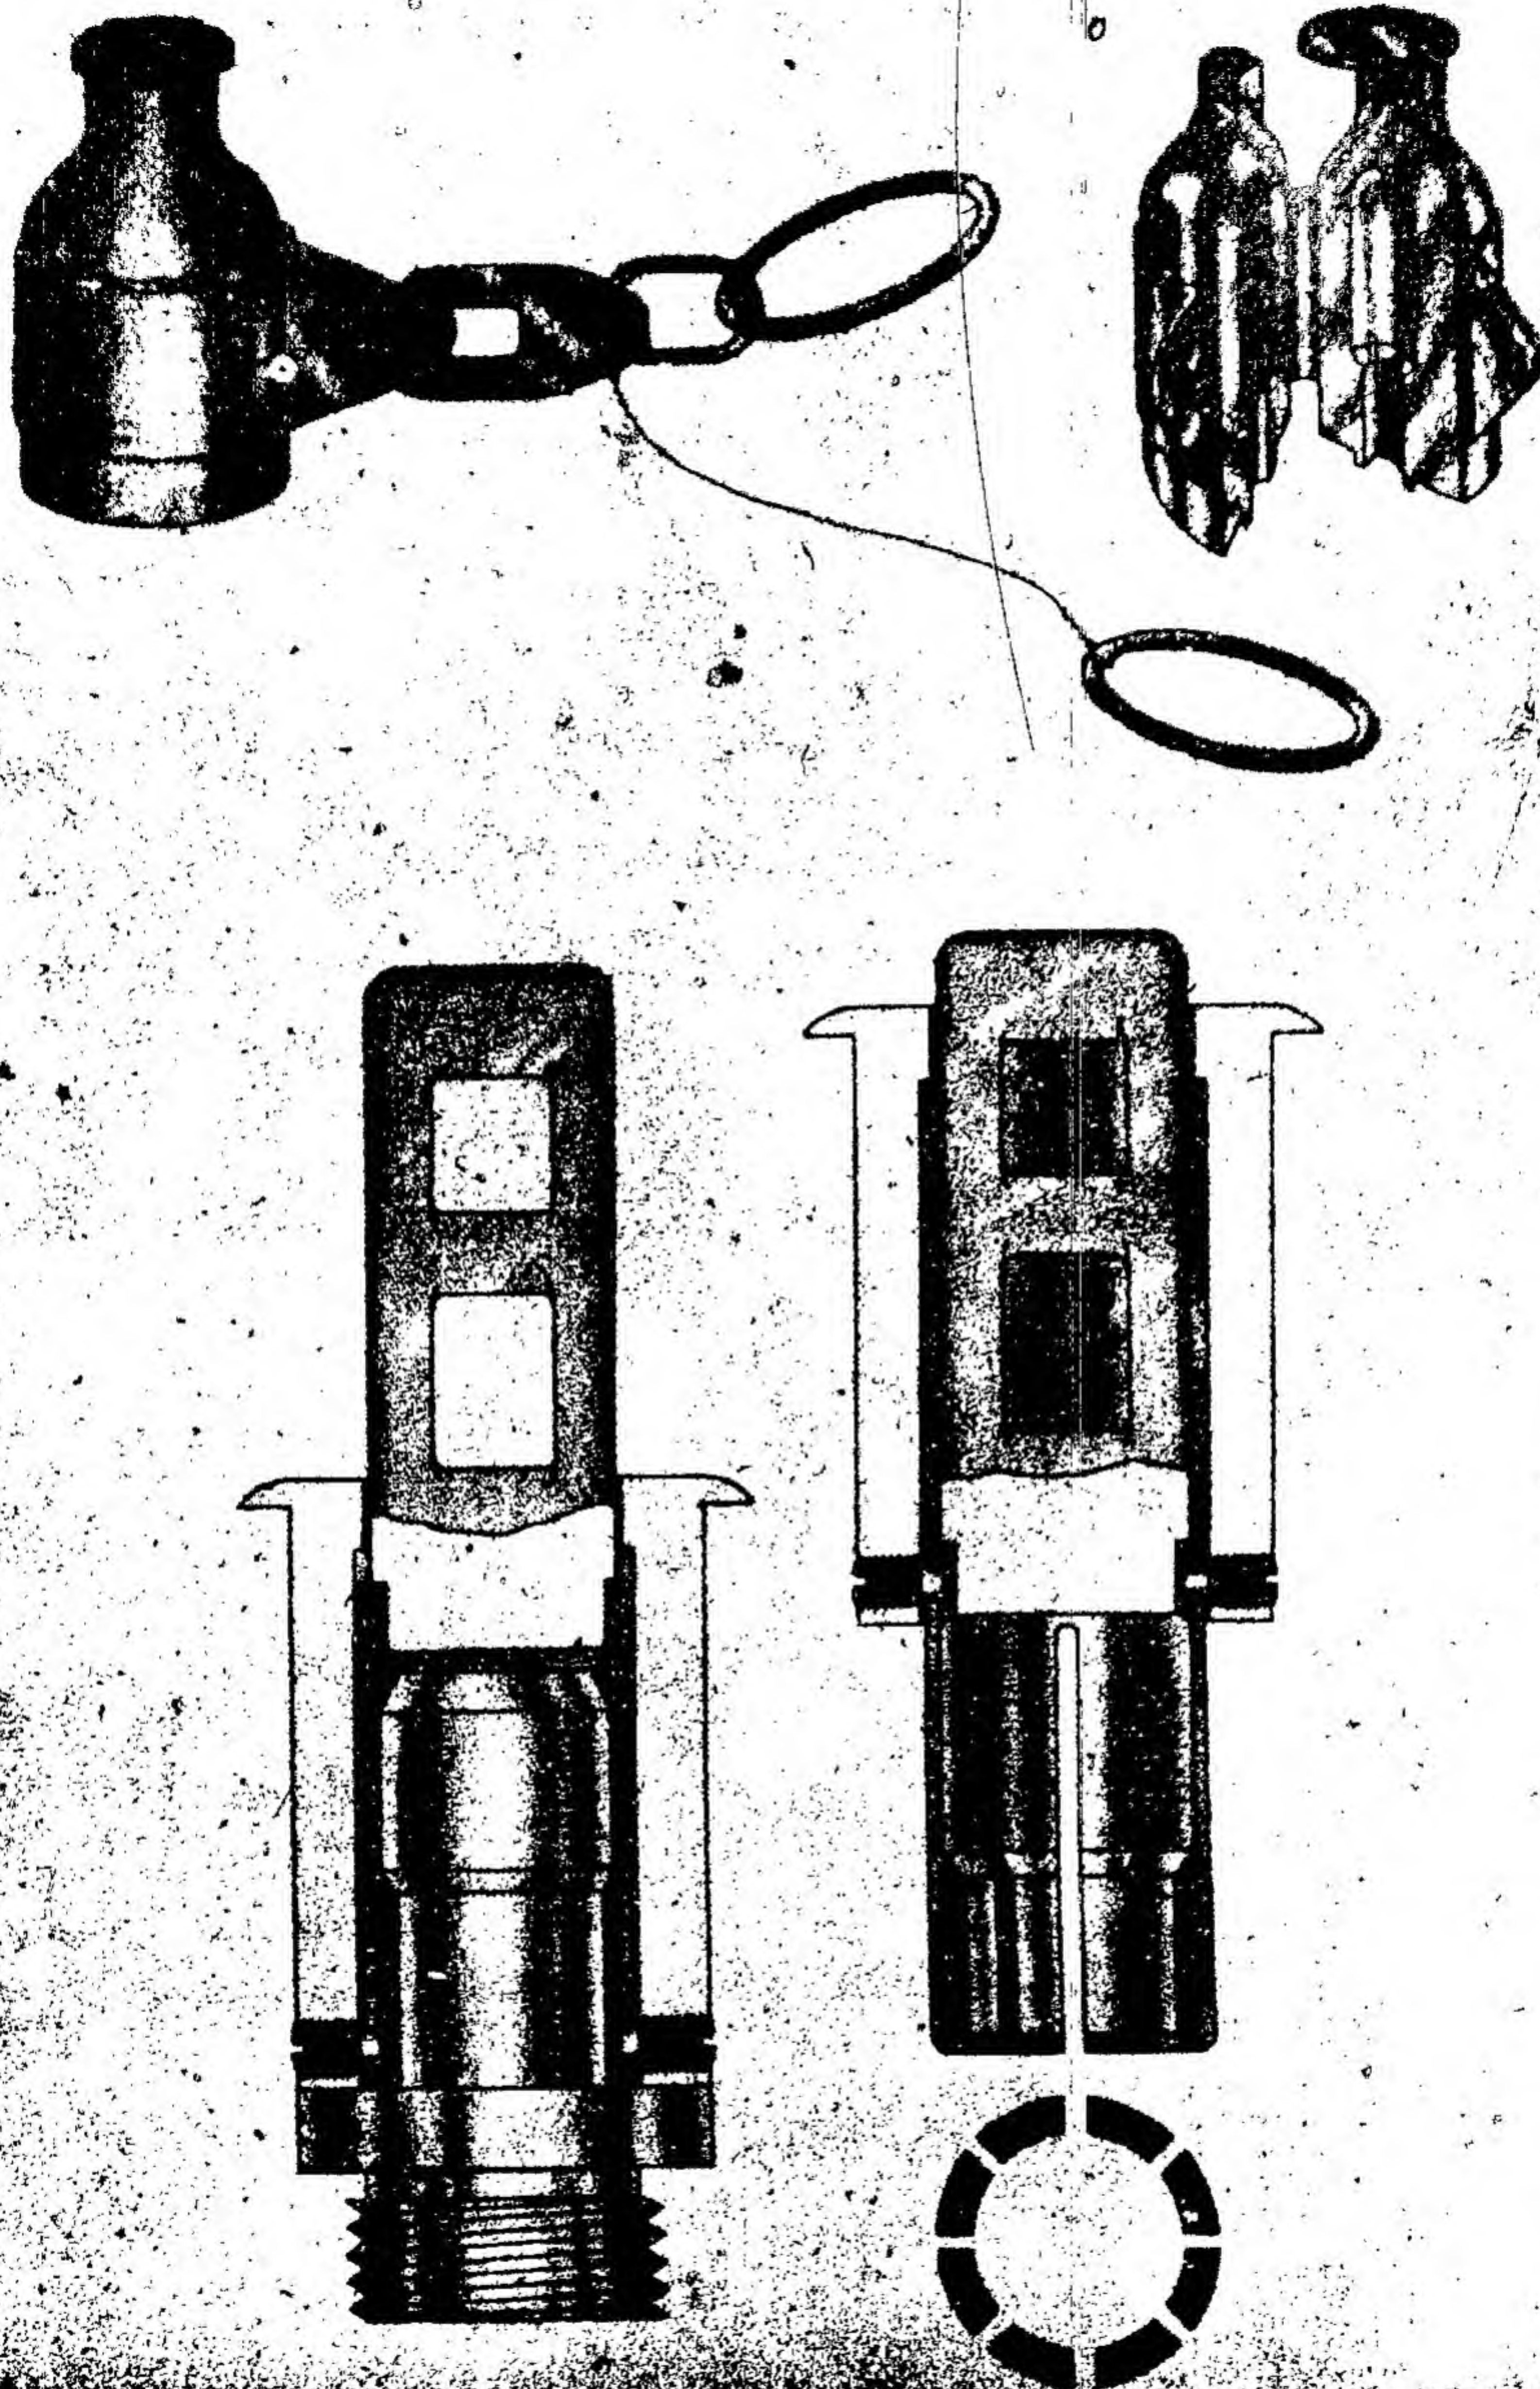

Figure 262 – Secondary Safety Devices
1. **Safety device Model 1928:** This device is incorporated with the 1928 and 1929 Models of the R. S. A. Fuze when used for horizontal suspension of 10 and 50-kg. bombs, and is shown at the top of Figure 262. It is also used in a slightly modified form with R. S. A. Fuze Model 1925. It consists of two symmetrical steel hoods joined by a band of spring steel. The interior of these hoods is shaped to conform with the contour of the fuze head. The safety device is closed by means of a clip to which cord and a ring are attached. The latter is attached to the ball-release cord, so that the clip is pulled away when the bomb is released. The safety device then opens during the descent of the bomb and falls away.
2. **Safety device, Sch. R. ("Schneider-Raymondie"):** This device, shown in the lower portion of figure 262, is used with R. S. A. Fuze Models 1928 and 1929, for vertical suspension of 10- and 50-kg. bombs. It consists of a steel sleeve through which passes the suspension lug. Attached to the base of the latter is a spring-steel collet, each steel strip having the projection to grip the fuze head. The sleeve can slide over the collet guided by two